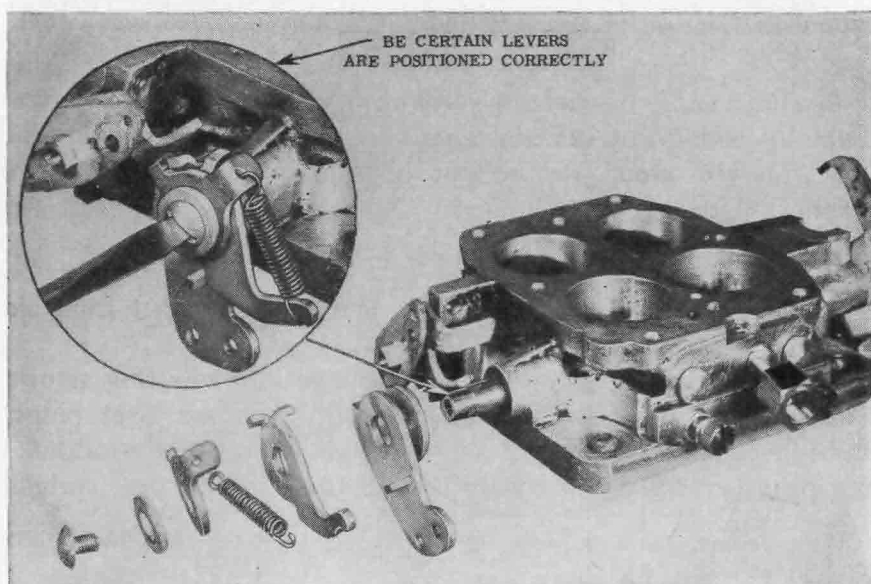

FIG. 10-46. Installing primary throttle levers. (Oldsmobile Division of General Motors Corporation)
- a. Install primary shaft thrust washer and inner throttle-shaft arm and dog. Hook spring on outer throttle lever and shaft dog, and install outer lever (see Fig. 10-46).